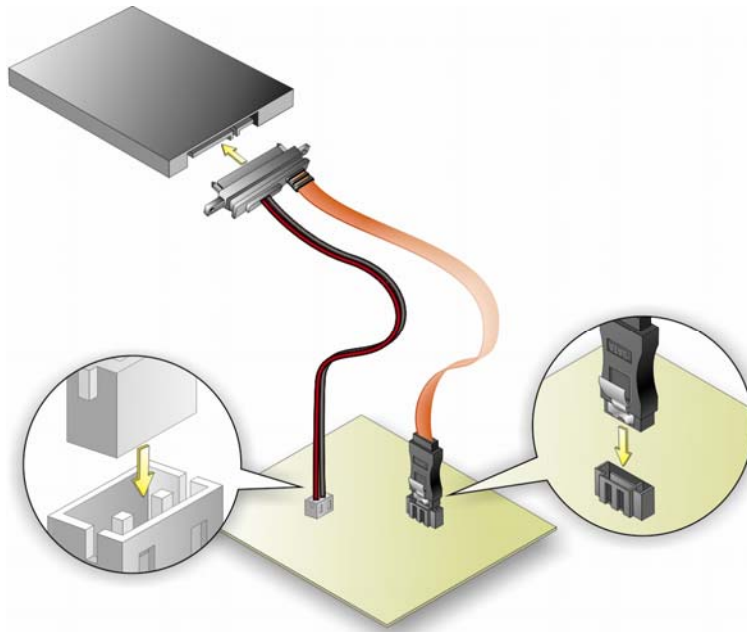

Figure 4-15: SATA Drive Cable Connection
Step 2: **Insert the cable connector.** Insert the cable connector into the on-board SATA drive connector and the SATA power connector. See **Figure 4-15**.
Step 3: **Connect the cable to the SATA disk.** Connect the connector on the other end of the cable to the connector at the back of the SATA drive. See **Figure 4-15**.